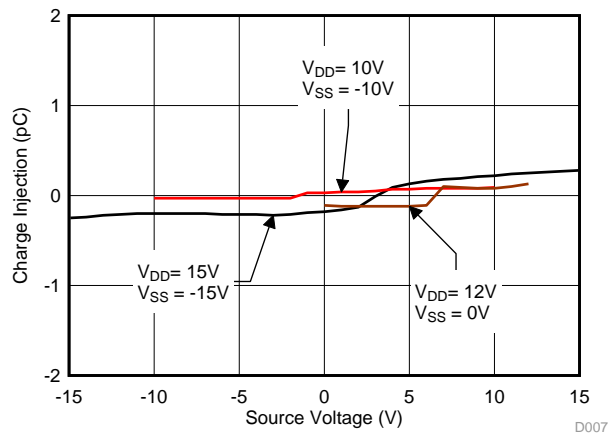

Figure 32. Charge Injection vs Source Voltage
The TMUX6119 utilizes special charge-injection cancellation circuitry that reduces the source (SA or SB)-to-drain (D) charge injection to as low as 0.19 pC at $V_S = 0$ V, as shown in Figure 32.